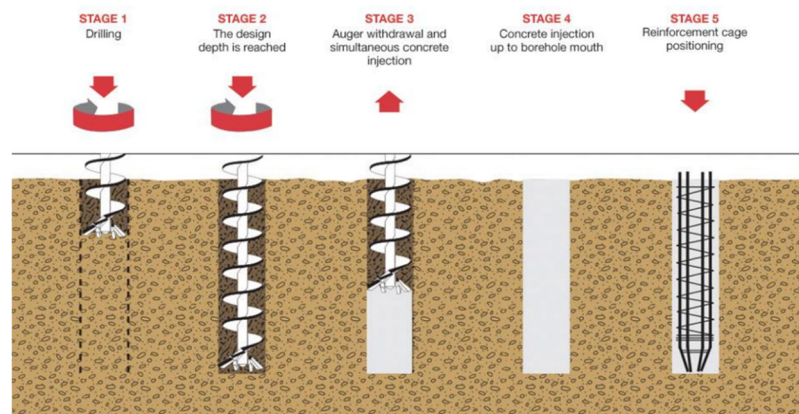

Figure 2.6.1: 5 stages for CFA piling
- The pile cage will be checked by the banksman before the pile is bored and again before lifting/ plunging into the pile shaft. - The cage is to be lowered down into the wet pile shaft, concrete cover spacers are to be place at the bottom, middle, and top of the cage. Please, see figure 2.6.1. - Assistance for the excavator can be used in the way of tapping the cage down to the correct level.